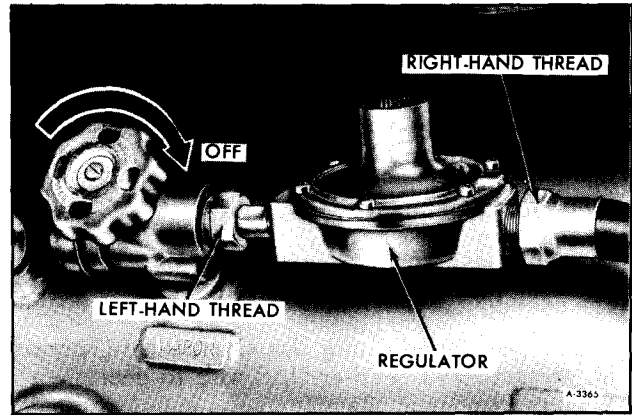

Figure 9—Regulator Attachment
1. Turn off gas at the tank (See figure 9).
IMPORTANT: The connector attaching the regulator to the vapor POL valve is left-hand threaded (See figure 9).